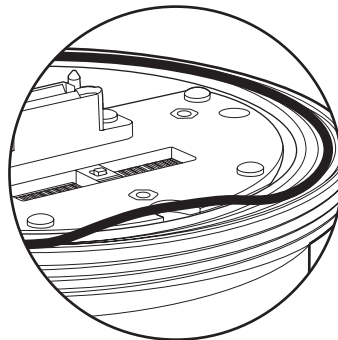

Figure 2. Lightly Lubricate and Install O-Ring
5. Lightly apply O-ring lubricant (supplied) to the O-ring, and then install the O-ring on the rim of the power module (refer to Figure 2).